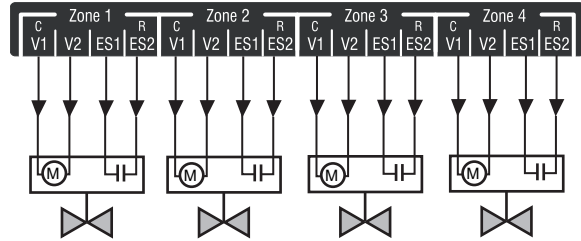

Fig. 9c Wiring an AQ1574V4 Zoning Module for use with low voltage Zone Valves WITH end switches.
- c. For low voltage zone valves with end switches (Figure 9c), 24 Vac power is pre-wired between the transformer secondary at the top left of the AQ250's transformer and the AQ1574V4 Zoning Module, so no field wiring is required.